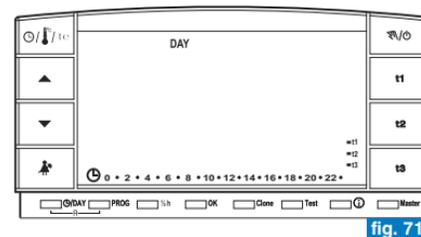

fig. 71
- Press OK to set display shutdown from 0:00 am to 6:00 am (example in fig. 71).
- Press OK: after 3 minutes, the display will shut down over the 24 hours of each day (example in fig. 71).